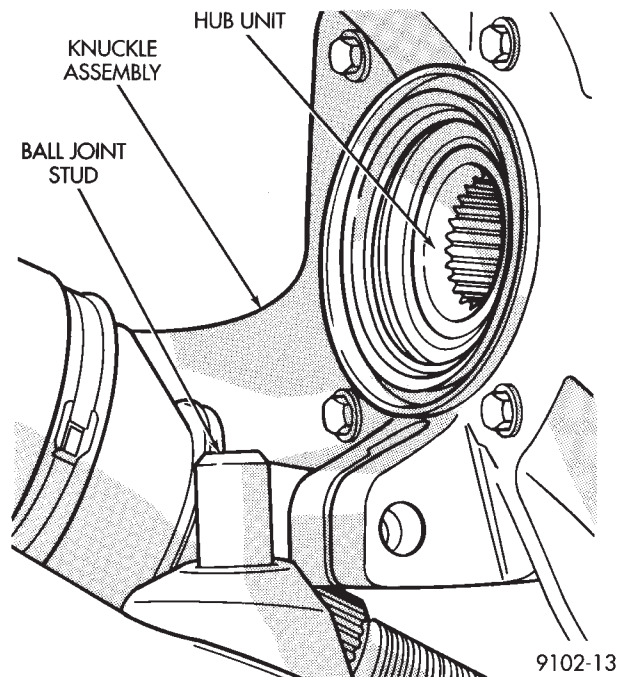

Fig. 8 Separate Ball Joint Stud from Knuckle Assembly
(9) Separate ball joint stud from knuckle assembly by prying down on lower control arm. Pull knuckle assembly out and away from driveshaft (Fig. 8).